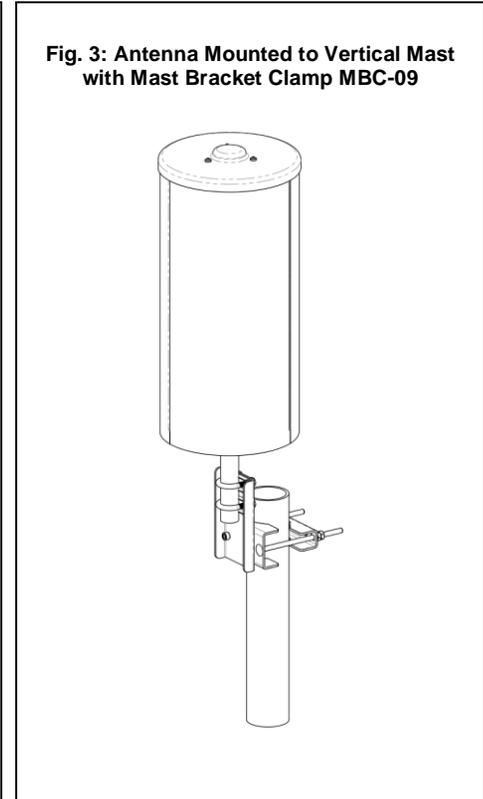

Fig. 3: Antenna Mounted to Vertical Mast with Mast Bracket Clamp MBC-09
- 3 Align the antenna radiating direction (as indicated on the bottom of the antenna) to the direction specified by the site engineer as shown in Fig. 3. Hand tighten the Clamp Assembly (Item 9) hardware. Then torque the Clamp Assembly hardware to 20 N·m (15 ft-lbs).